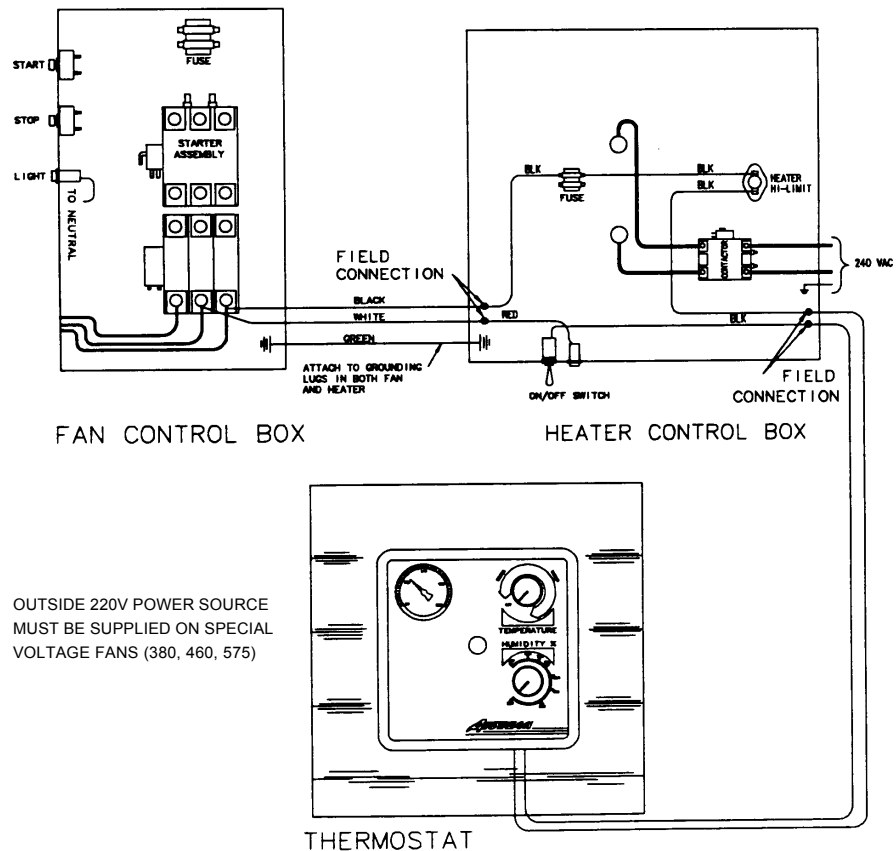

Figure 2: Electric heater wiring to fan unit.
2. Make field connection of wires as shown in Figure 2.